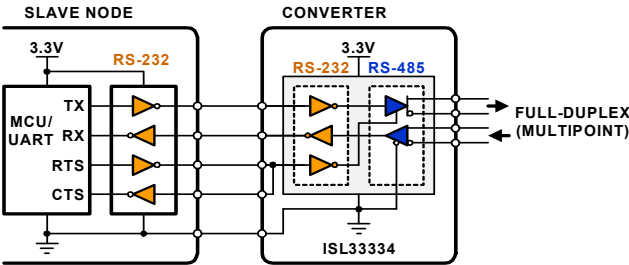

Figure 12. Networking Multiple RS-232 Nodes Through a Full-Duplex RS-485 Link
Networking multiple RS-232 equipment over a full-duplex RS-485 bus however, requires a minor configuration change for the converters in slave nodes. The driver and receiver in the master node (PC) can remain active all the time, so can the receivers in the slave nodes. The drivers in the slave nodes however, must be timely controlled to prevent two or more slaves from accessing the bus at the same time. For this purpose, the driver of the second RS-232 channel in a converter design is used to enable and disable the RS-485 driver with the RTS flow control signal (Figure 12). Note that within the converter the RTS must be looped back to the CTS input of the controller, which is known as null-modem configuration.